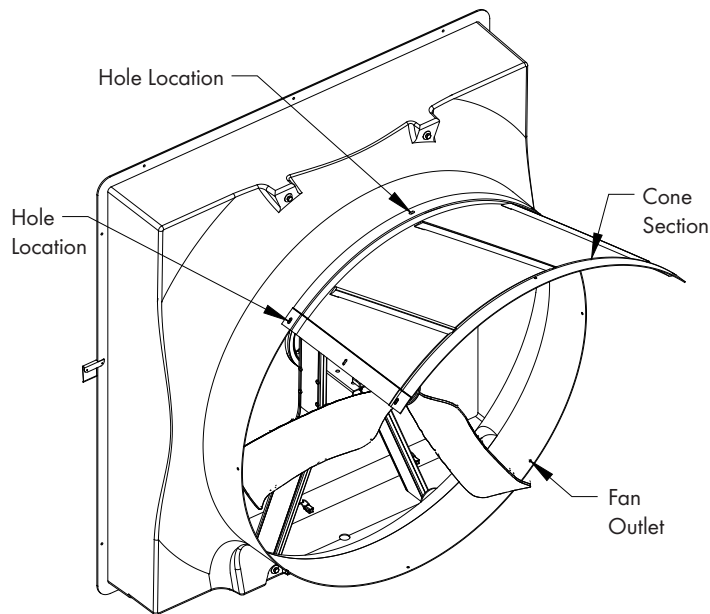
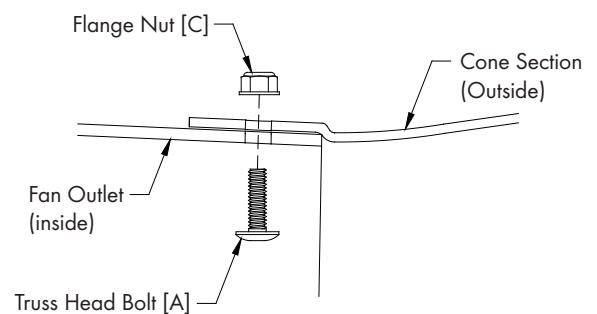

Figure 1
Figure 2
Place (1) cone section on top of the fan outlet as shown in Figure 1. Install (2) Bolts [A] through holes in fan outlet and left and middle slots in cone section and secure with Nut [B]. Truss Head of each bolt must be on inside of fan outlet, Flange Nuts must be on outside of cone. See Figure 2. Tighten bolts and nuts until cone section fits firmly around fan outlet.